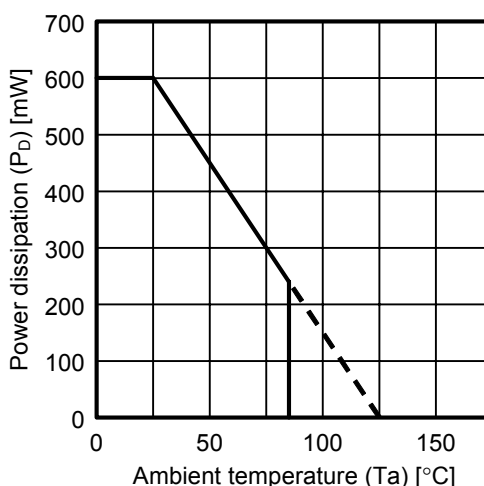

Figure 3 Power Dissipation of Package (Mounted on Board)
2. Since this IC has a built-in power MOS FET, make sure that dissipation of the power MOS FET does not exceed the allowable power dissipation of the package. (Refer to Figure 3.) Generally, dissipation of a switching regulator can be calculated by the following equation.